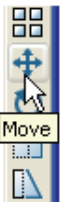

Fig. 5.24 The **Move** tool from the **Modify** toolbar
2. Call **Move** – either *click* the **Move** tool icon in the **Modify** toolbar (Fig. 5.24), or *pick* **Move** from the **Modify** drop-down menu, or *enter* **m** or **move** at the command line, which then shows: